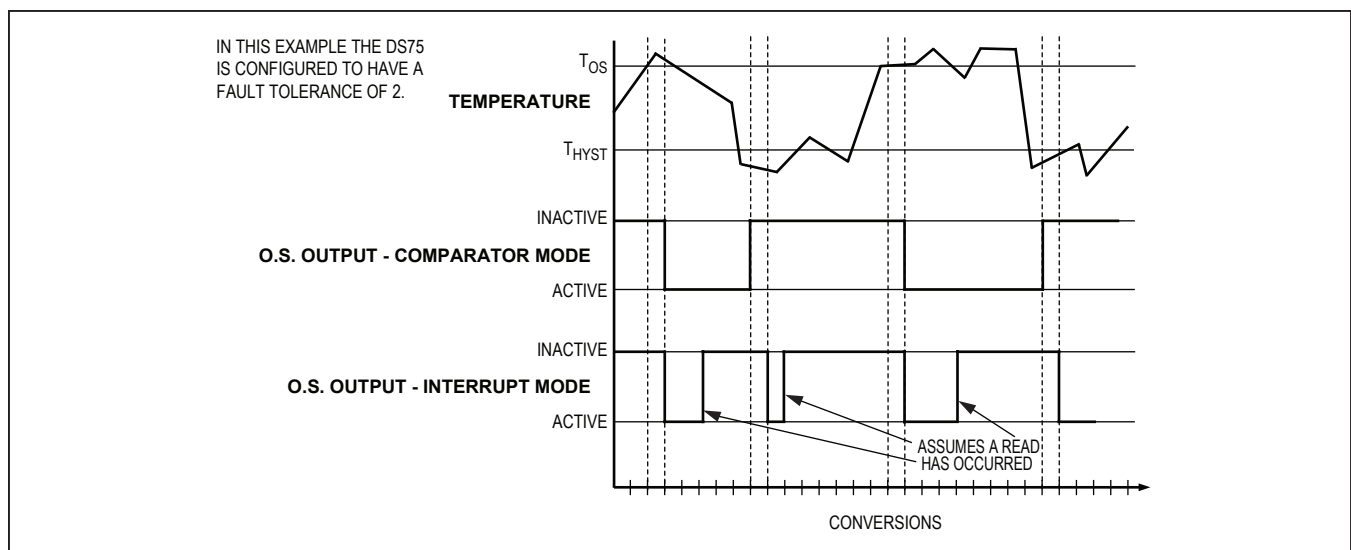

Figure 4. O.S. Output Operation Example
When the thermostat is in comparator mode, O.S. can be programmed to operate with any amount of hysteresis. The O.S. output becomes active when the measured temperature exceeds the T_{OS} value a consecutive number of times as defined by the F1 and F0 fault tolerance (FT) bits in the configuration register. O.S. then stays active until the first time the temperature falls below the value stored in T_{HYST} . Putting the device into shutdown mode does not clear O.S. in comparator mode. Thermostat comparator mode operation with FT = 2 is illustrated in Figure 4.
a consecutive number of times equal to the FT value in the configuration register. Once activated, O.S. can only be cleared by either putting the DS75 into shutdown mode or by reading from any register (temperature, configuration, T_{OS} , or T_{HYST}) on the device. Once O.S. has been deactivated, it will only be reactivated when the measured temperature falls below the T_{HYST} value a consecutive number of times equal to the FT value. Again, O.S. can only be cleared by putting the device into shutdown mode or reading any register. Thus, this interrupt/clear process is cyclical between T_{OS} and T_{HYST} events (i.e., T_{OS} , clear, T_{HYST} , clear, T_{OS} , clear, T_{HYST} , clear, etc.). Thermostat interrupt mode operation with $FT = 2$ is illustrated in Figure 4.